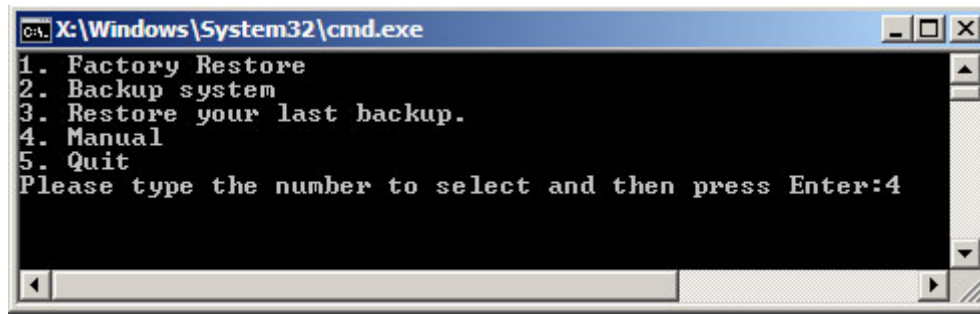

Figure A-11: Recovery Tool Menu
Step 2: The recovery tool menu appears. Type <4> and press <Enter>. (**Figure A-11**)